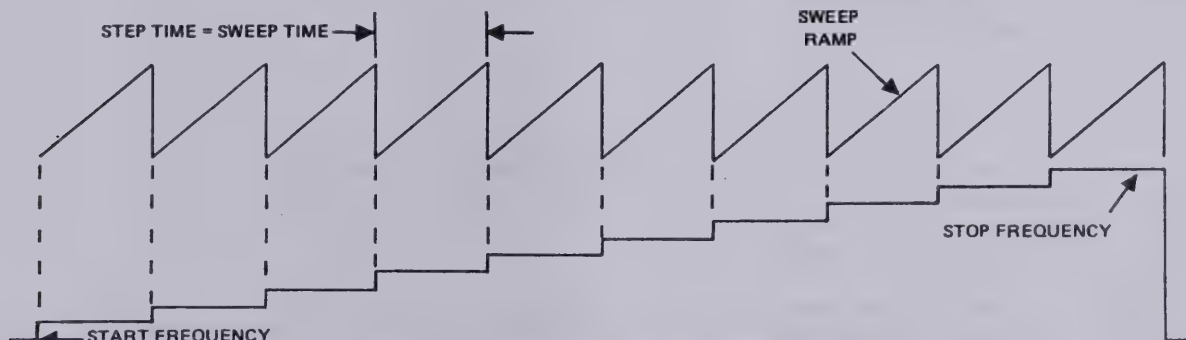

Figure 3-3. Comparison of Step and Sweep Times
voltage ramp becomes an internal VCG input. The start frequency of the generator is determined by the START FREQ dial (2) and the stop frequency is determined by the STOP FREQ dial (3). The SWEEP START and SWEEP STOP settings will hold the output signal at the start and stop frequencies, respectively, while the START FREQ (2) and STOP FREQ (3) dials are adjusted. CONT RAMP allows frequency sweeping to occur at the rate set by (5). TRIG RAMP allows triggering by (11) or (12) of a single sweep. CONT STEP allows 10 equal frequency steps (11 levels), the first level set by (2), the last by (3). Step duration is set by (5) (see figure 3-3). Single step allows triggering by (11) or (12) of a single step in frequency.